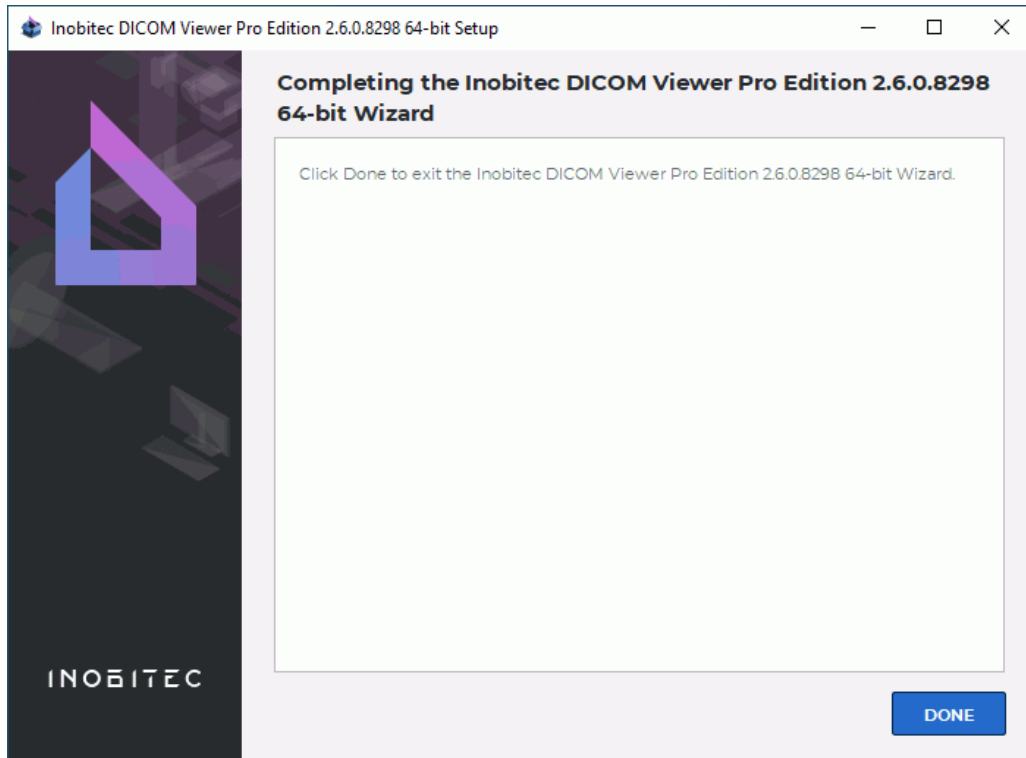

Figure 11: Installation complete
13. Wait until the installation process is complete (Fig. 11). Click the **DONE** button.